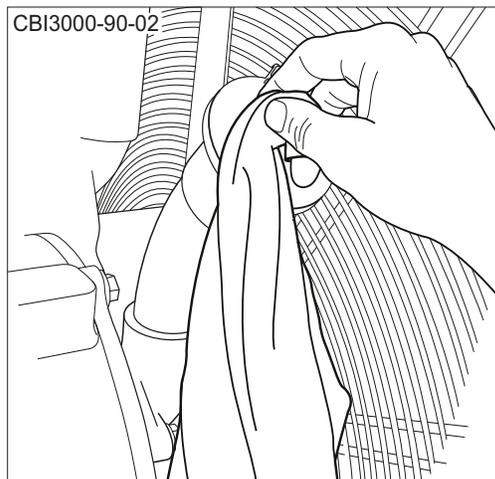

Figure 6.28 - Clean Filler Neck Area
3. Clean Area - Clean the area above and around the filler neck (Figure 6.28) to ensure no contaminants enter the system when the plug is removed.